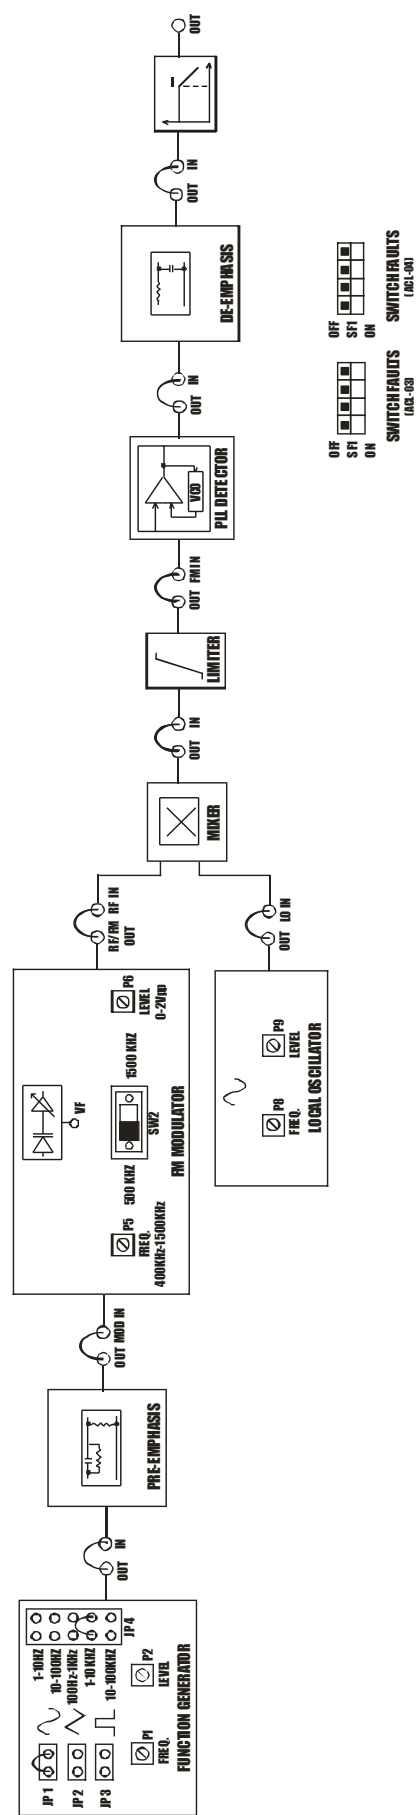

FIG.5.1 BLOCK DIAGRAM FOR EFFECT OF PRE-EMPHASIS AND DE-EMPHASIS USING VARACTOR MODULATOR AND PHASE LOCKED LOOP DETECTOR
- Refer to the FIG. 5.1 & Carry out the following connections.